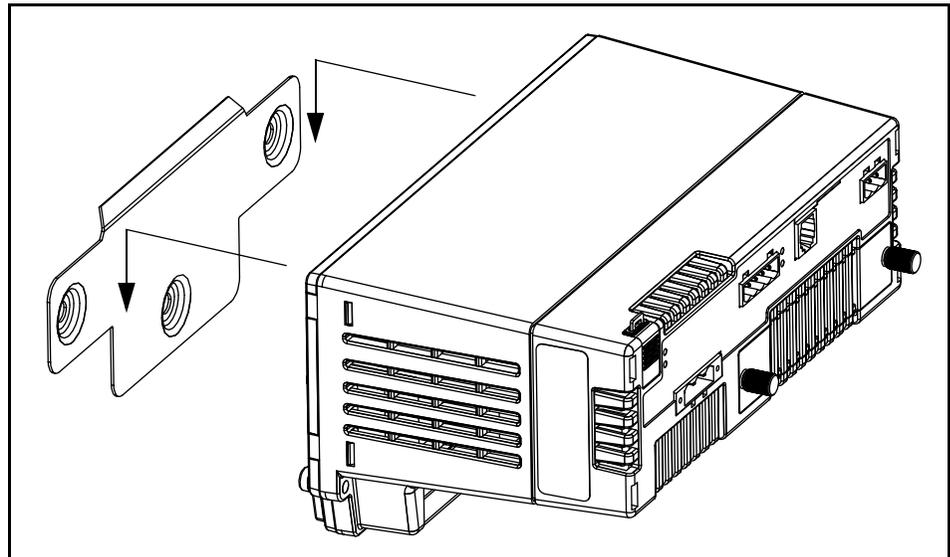

Figure 4–5: Attaching the CM3000 to the Mounting Bracket
1. Determine a location for the circuit monitor, making sure you understand all mounting considerations discussed in "Mounting Considerations" on page 15. Also refer to Figure 4–4 on page 17 for dimensions and clearances.
2. Tape the mounting template, included in the circuit monitor shipping carton, to the selected location. Refer to Figure 4–4 on page 17.
5. Attach the CM3000 as shown in Figure 4–5.
1. Refer to Figure 4–4 on page 17 for dimensions and clearances.
- LCD display (see Figure 4–6)
- VFD display has an additional proximity sensor and infrared port (see Figure 4–6)